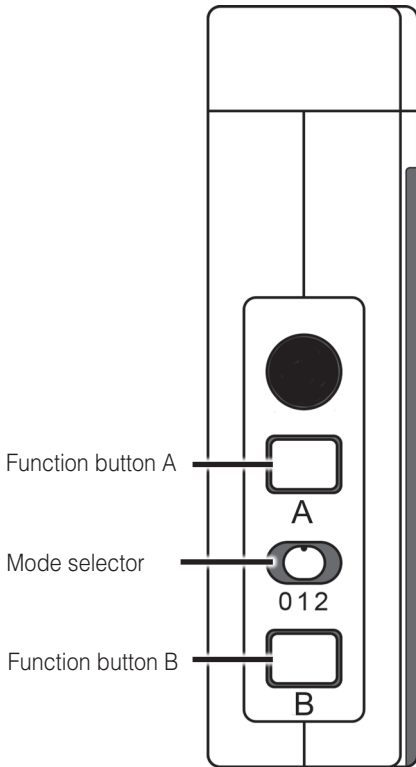

Figure 2: Controls, left side
Using the mode selector slide switch (in fig. 2 "0 1 2") you can select the signal mode. Kindly keep in mind that the event icons are always displayed by coloured LEDs.
- a) Keep the function button »A« (fig. 2) pressed for some time. The event icons start to light up in sequence. Let go of